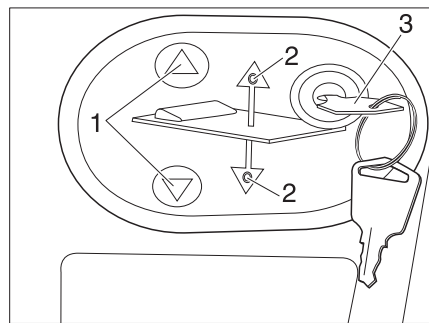

Fig. 162 Operating panel for the electrical pull-down bed
- Insert the key (Fig. 162, 3) into the operating panel (Fig. 162, 2).
- Press the  or  (Fig. 162, 1) button and keep it pressed. The respective LED (Fig. 162, 2) lights up and the pull-down bed moves down or up.
- When the desired position has been reached, release the  or  (Fig. 162, 1) button again. The respective LED (Fig. 162, 2) extinguishes.
- Remove the key (Fig. 162, 3).